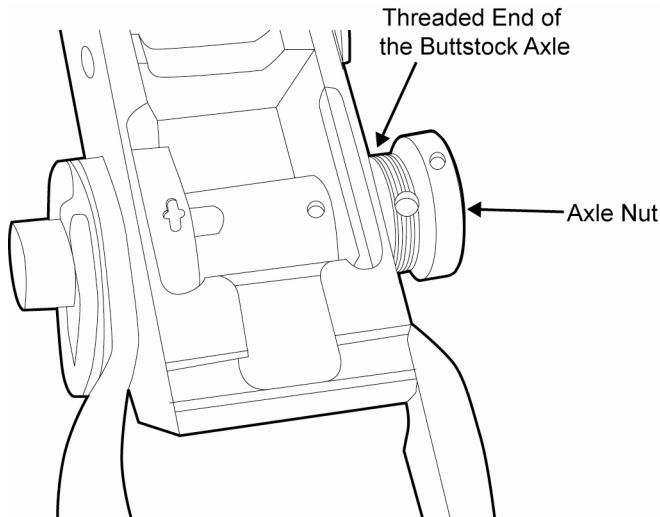

Figure 46. Screwing the Axle Nut onto the Threaded End of the Buttstock Axle.
c. Screw the axle nut onto the buttstock axle. Ensure that the pin holes of the buttstock axle and axle nut are aligned. Refer to Figure 46.